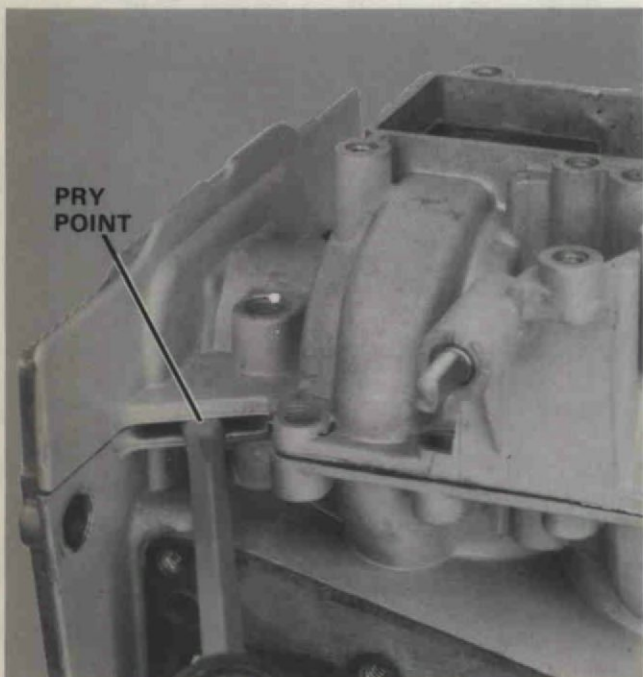

Figure 19. Prying off Crankcase Cover.
- C. Pry crankcase cover from cylinder. Use screwdriver at pry points. Figure 19.